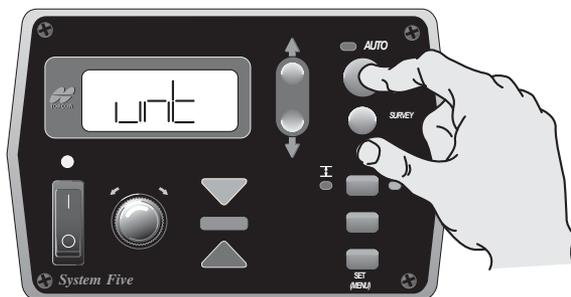

Figure 4-22. Selecting Performance Menu Items
3. Press the Auto button to select a menu item (Figure 4-22).